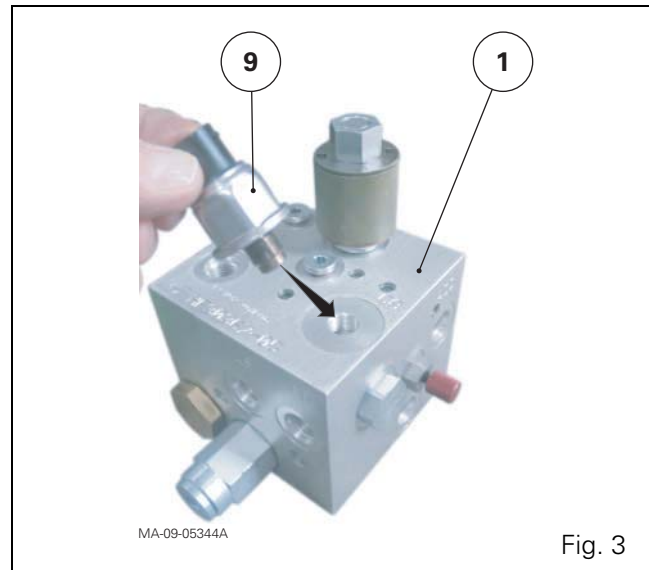

Fig. 3
The tractor's electronic system controls the high-pressure braking system via information received from the pressure sensor (9) (Fig. 3).
If the hydraulic pressure inside the high-pressure braking system (1) drops to between 70 and 80 bar, the tractor's electronic system shuts off the electrical supply to the solenoid valve (10) via the pressure sensor (9) (Fig. 3). The solenoid valve spool then moves down to the opening position under the action of the spring (6). The oil under pressure flowing from the variable displacement pump through the line (P) via the 25 μ filter (3) forces the non-return valve (7) to open, by compressing the spring (2). The oil under pressure is then permitted to pass through the line (FR) to the block/valve assembly (13) (Fig. 2) and through the line (ACC) to the accumulator (5).
If the hydraulic pressure inside the high-pressure braking system (1) reaches 95 bar, the tractor's electronic system activates the solenoid valve (10) (12 V) via the pressure sensor (9) (Fig. 3). The solenoid valve spool then moves upwards to the closed position, forcing the pressurised flow of oil from the variable displacement pump via the line (P) and via the 25 μ filter (3) to be reduced or interrupted.